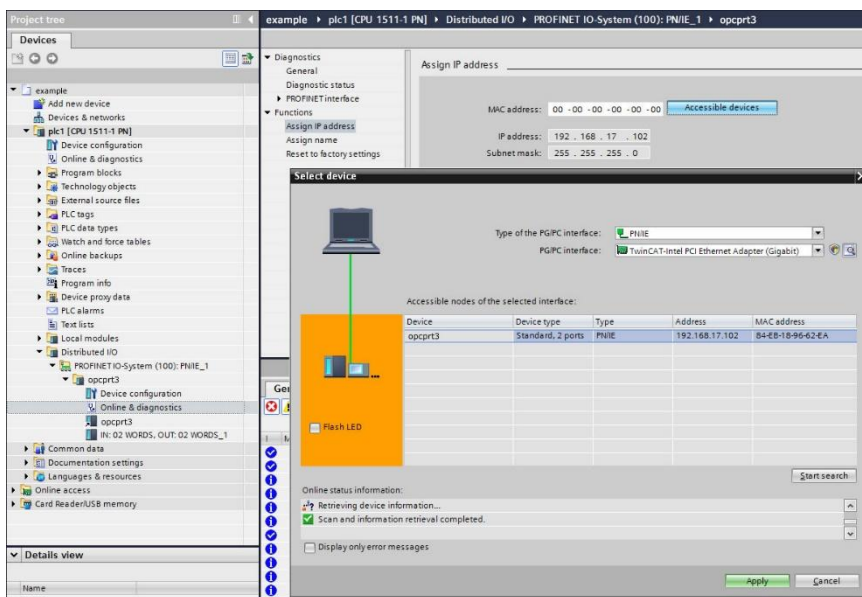

Figure 85: Discover PROFINET Devices on the Network
In the **Project tree**, expand **plc1...Distributed I/O...PROFINET IO-System (100):PN/IE_1**. Expand the device and double-click **Online & diagnostics**. In the next panel, expand **Functions** and select the **Assign IP address** node. Click the **Accessible devices** button. Select the appropriate **PG/PC interface** and click the **Start search** button to discover and display the PROFINET devices on the network as shown in Figure 85. Select the device and click the **Apply** button.